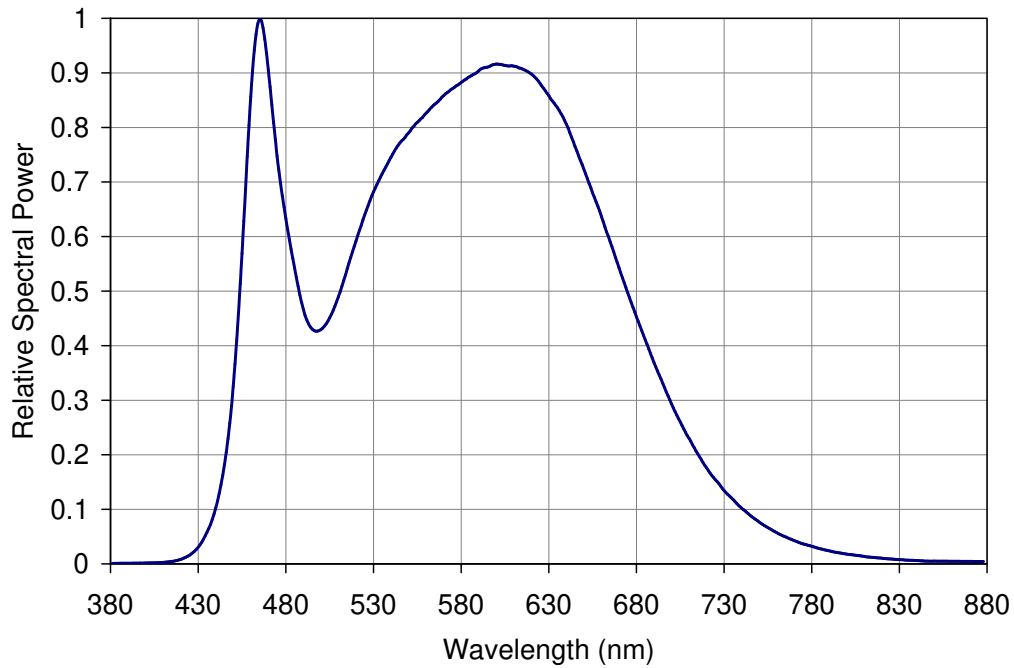

Figure 5: Relative spectral power vs. wavelength @ T_c = 25°C.
- Solder conditions per JEDEC 020D. See Reflow Soldering Profile Figure 5.